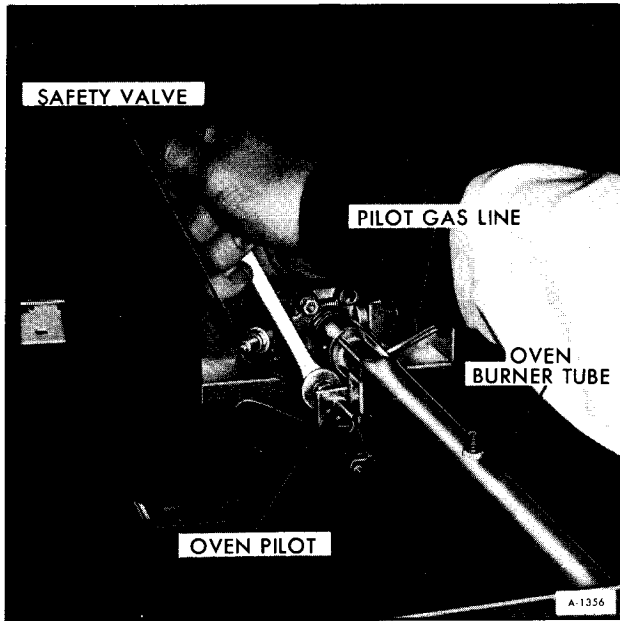

Figure 16—Disconnecting Gas Line at Oven Pilot
5. Disconnect the two gas lines, one at the oven pilot and one at the safety valve (See figures 16 and 17).